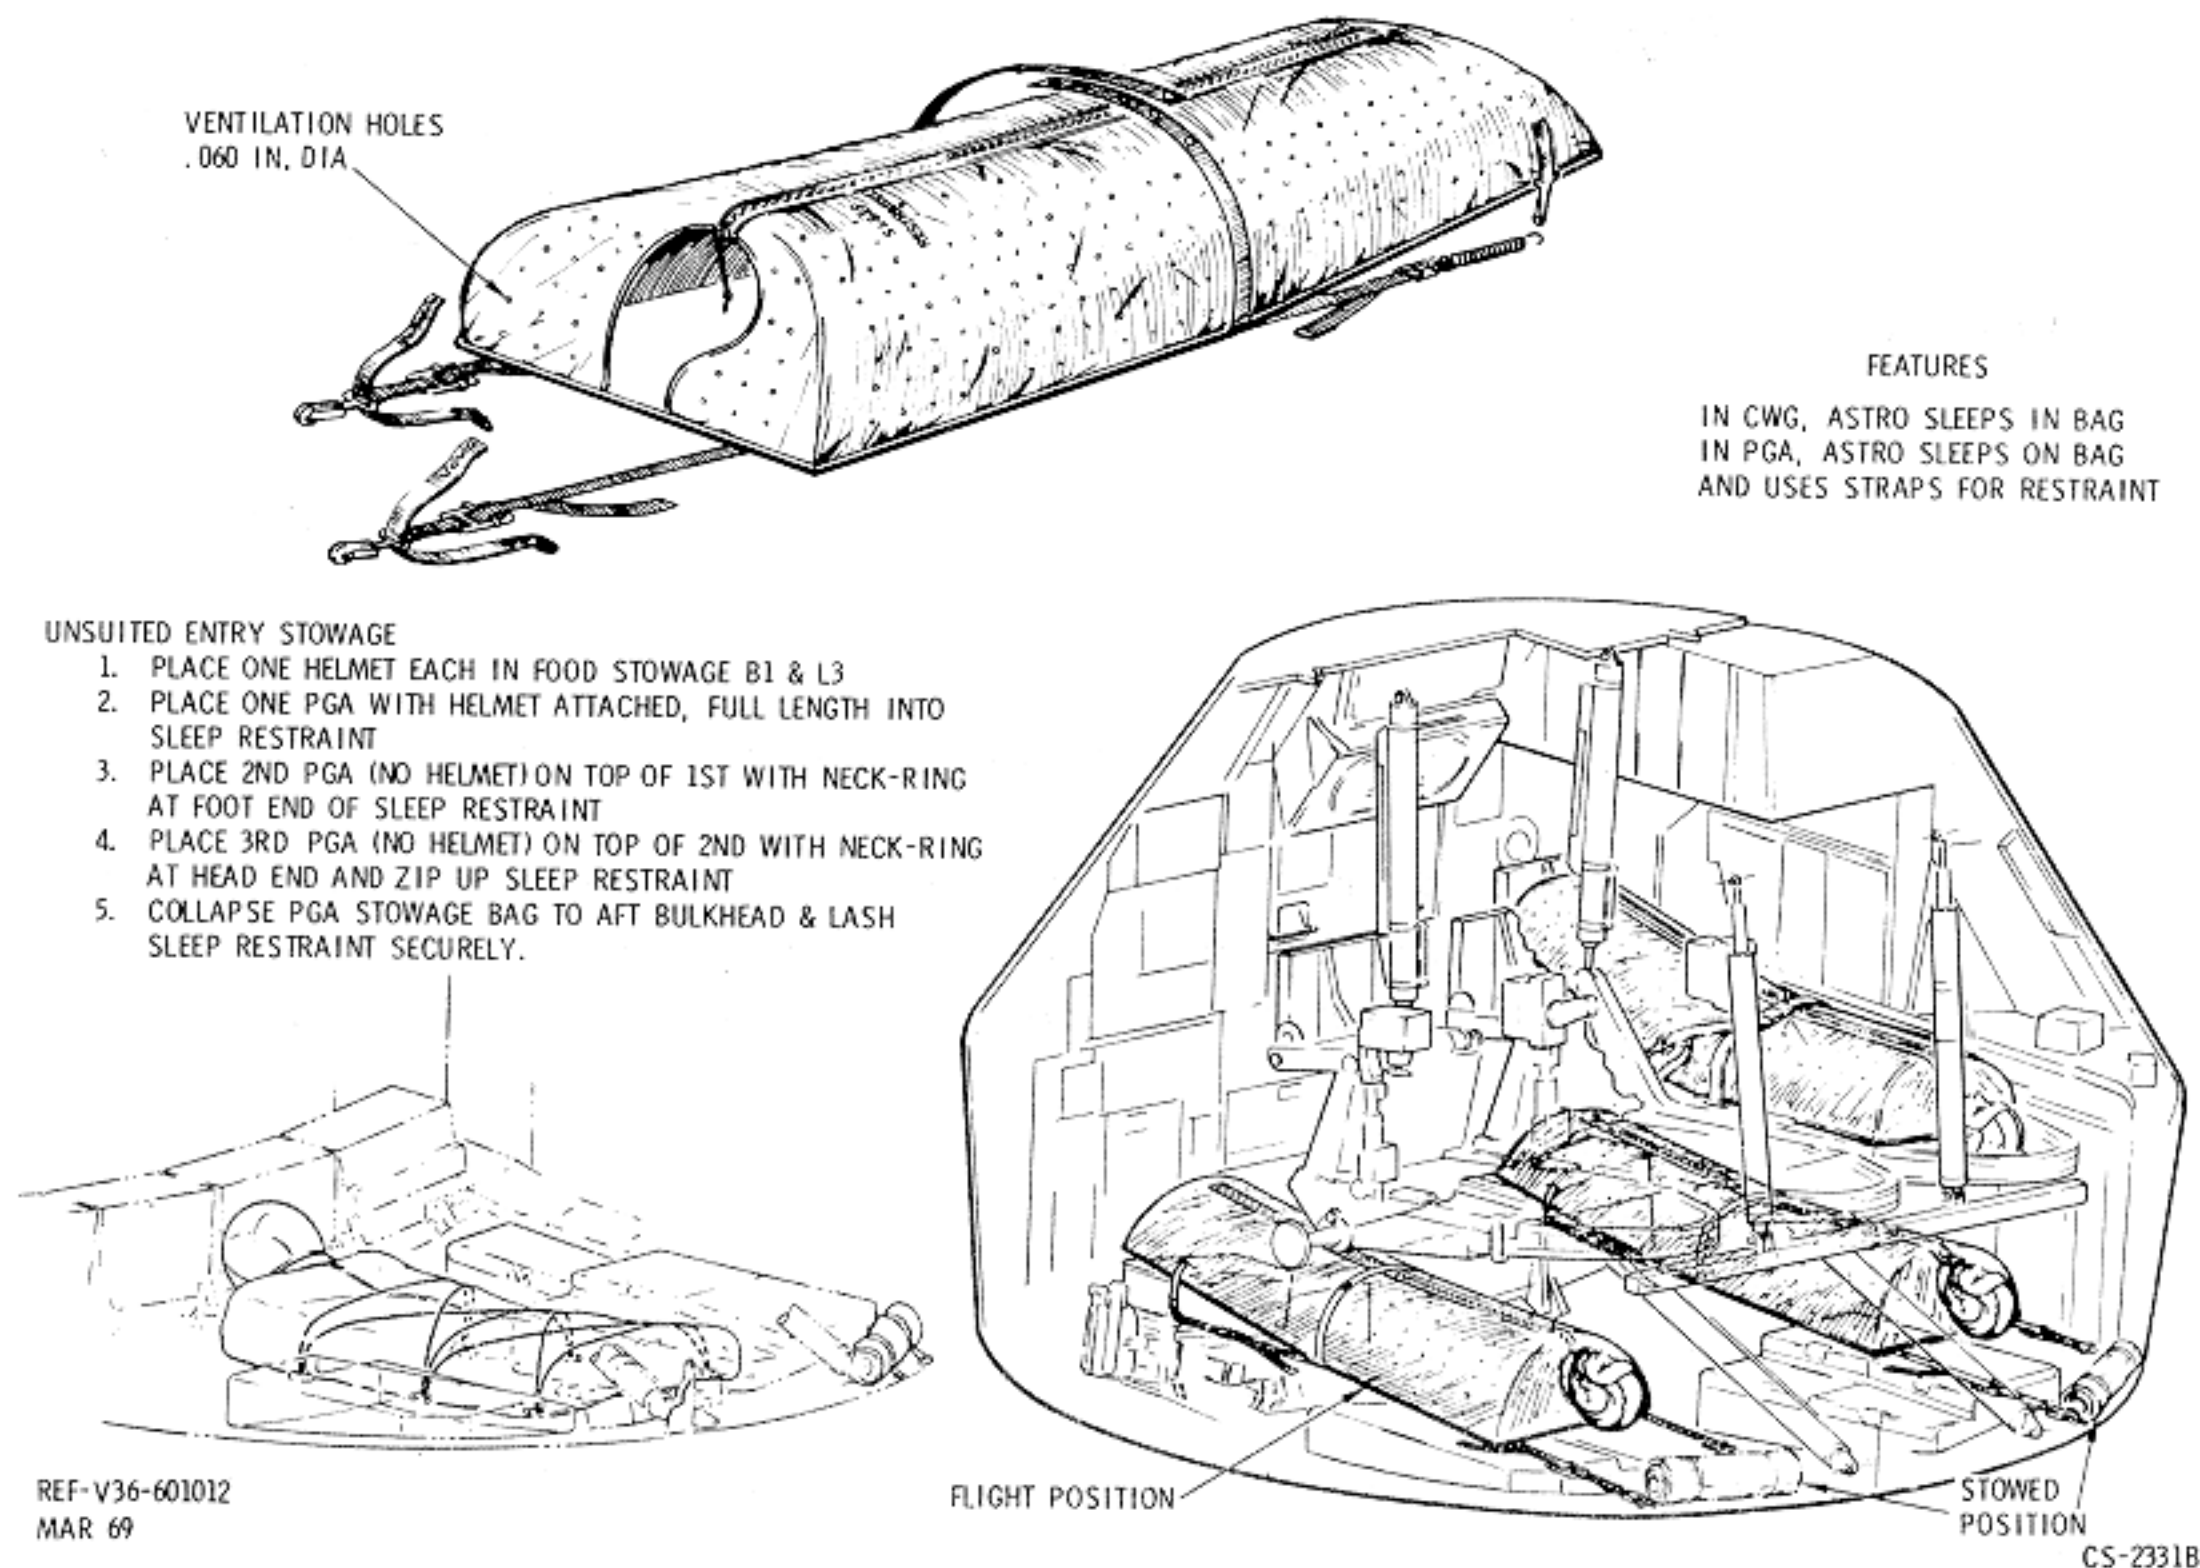

Figure 2.12-10. Sleep Station Restraints
2.12.3.2.4 Sleep Station Restraints (Figure 2.12-10).